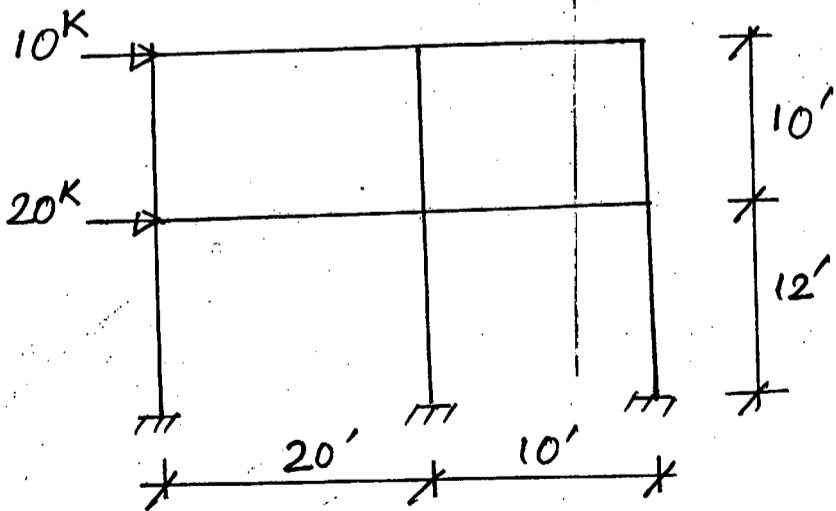

Figure 12
- (b) Draw the shear force and bending moment diagrams of the beams and columns for the building frame as shown in Figure 12. Use Portal method. **(28 2/3)**